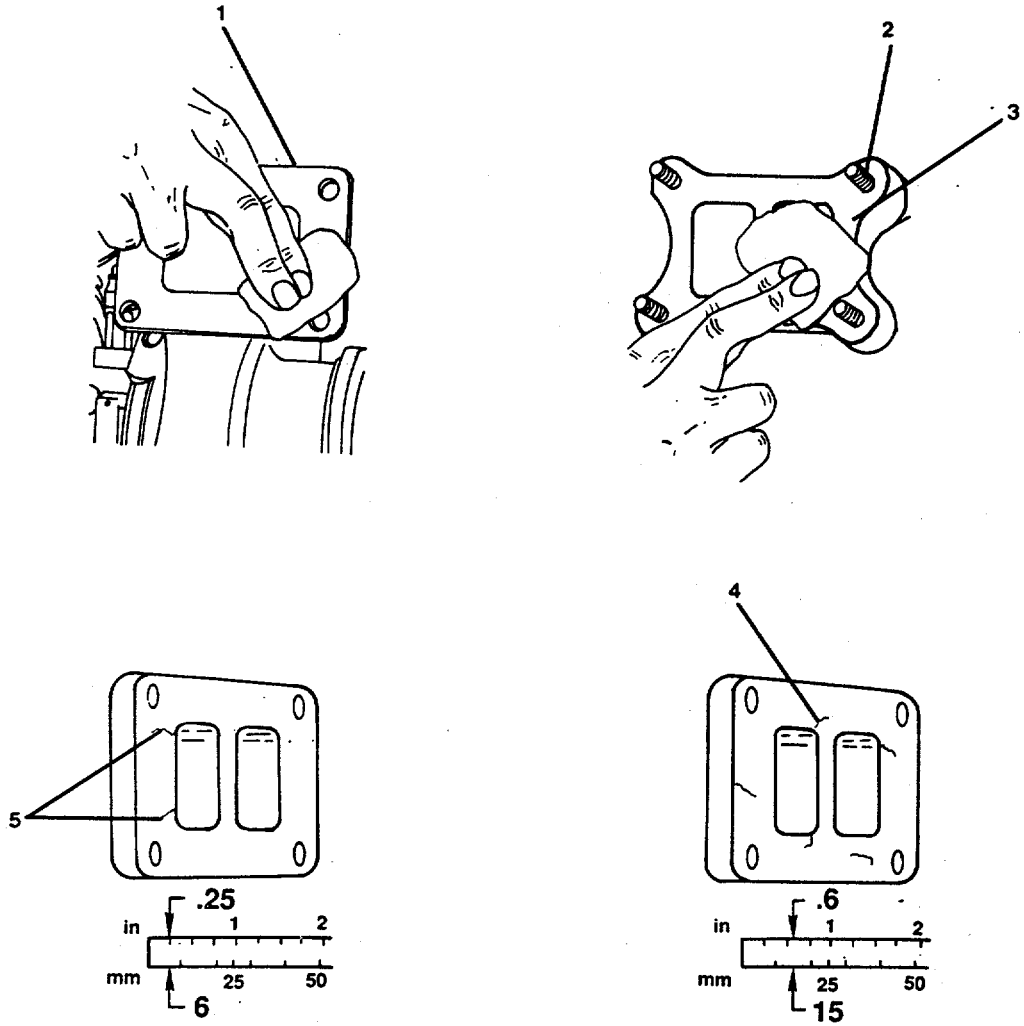

FIGURE 2-17. Turbocharger Repair.
- a. Clean turbocharger gasket surface (1, FIGURE 2-17) and exhaust manifold gasket surface (3) with solvent and rag.
- b. Check for cracks on turbocharger mounting flange (4 or 5). If cracks are longer than .6 inch (15 mm), replace turbocharger (3) flange.
- e. Inspect exhaust manifold gasket surface (3) and mounting studs (2) for cracks or thread damage. If surface is cracked, replace manifold (para. 2-39). If studs are damaged, replace studs.